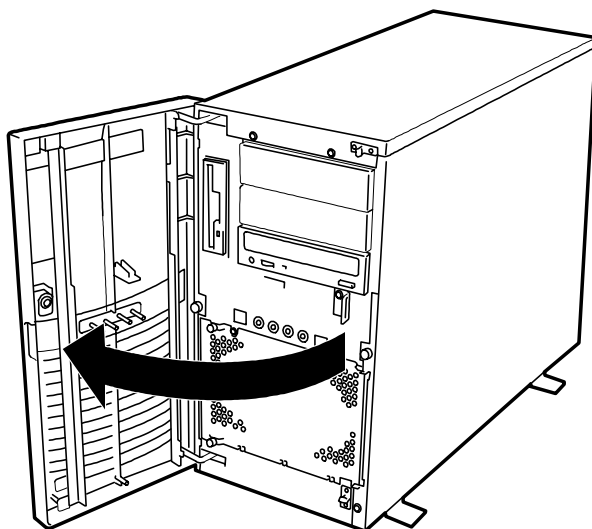

Figure 1. Opening the Front Door
3. Grasp the indentation located on the right edge of the front door and pull the door towards you to open it (Figure 1).